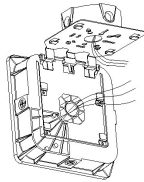

Fig. 6
4. Hang the fixture on the mounting plate hooks (Fig. 6) and connect the black, white and yellow /green luminaire wires to incoming power wires (black to line, white to neutral, and yellow / green to ground)